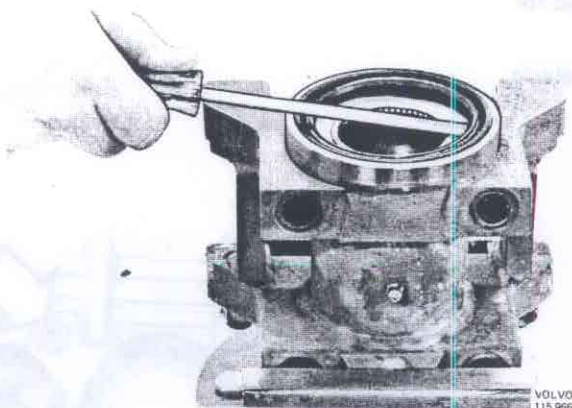

Fig. 76-7. Removing the sealing ring
1. Knock out the sealing ring with a chisel, see Fig. 76-7. If there is any burr underneath the sealing ring, remove it with a shaver.